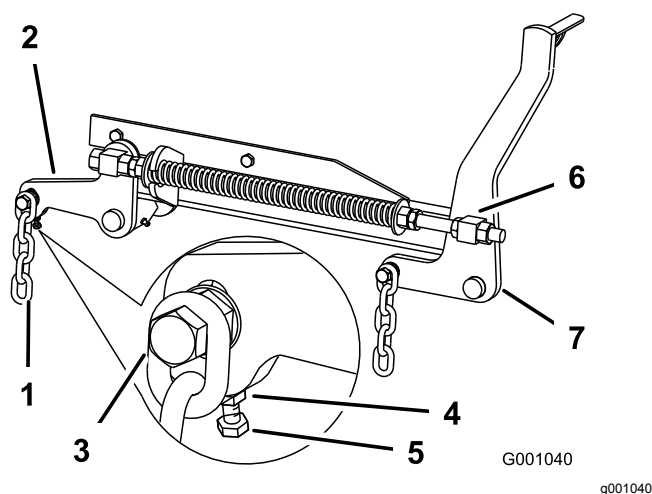

Figure 93
7. If the measurements at positions **B** or **C** are not correct, loosen the bolt attaching the rear chain to the rear-support arm (Figure 93).
8. Loosen the jam nut under the rear-support arm and adjust the adjustment bolt to get a measurement of 80 to 83 mm (3-1/8 to 3-1/4 inches); refer to Figure 93.
7. Loosen the front swivel jam nuts, at the front of the right and left swivels, approximately 13 mm (1/2 inch) (Figure 93).
8. Adjust the lift nuts on both the left and the right side of the machine to achieve 6 to 10 mm (1/4 to 3/8 inch) lower in front at **A** than in the rear at **B** (Figure 93).